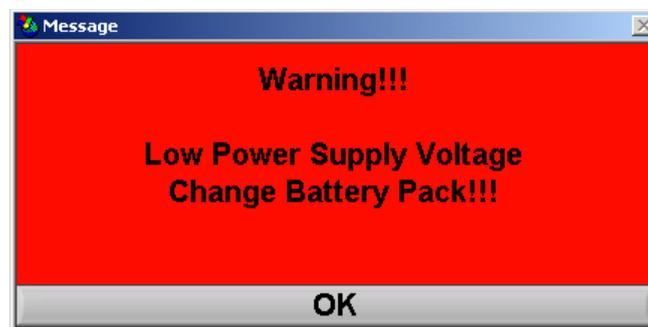

Figure 15 - battery down alarm window
3. Force (N): force read by the load cell, corresponding to the penetration resistance, measured in Newton
5. Battery: battery charge. As the charge runs down, the bar changes color going from green to yellow and finally to red. When the charge level gets too low to guarantee proper operation of the system, an alarm message appears telling you to change the battery (Figure 15).